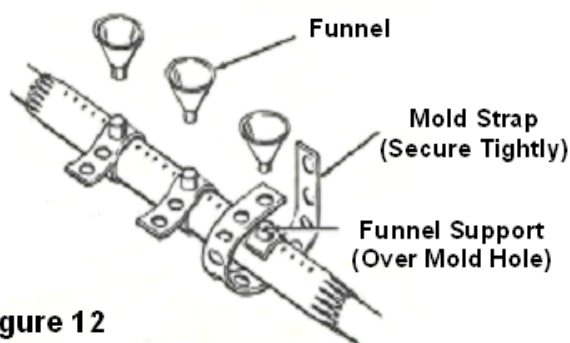

Figure 12
4. Position funnel supports over mold holes and secure with mold straps. (Figure 12)
6. Install funnels into funnel support holes. (Figure 12)